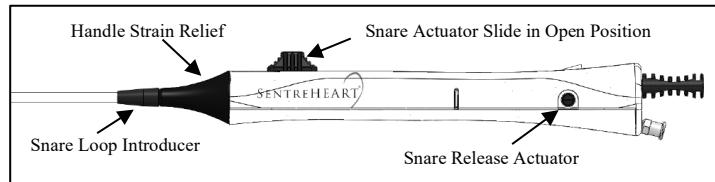

Figure 3 Opening the Delivery Snare
9. If using the SofTIP or Trocar, advance the Snare Loop Introducer from the handle towards the tip until it covers the closed Delivery Snare. Introduce the LARIAT RS into the SofTIP or Trocar. Pull back the Snare Loop Introducer until it locks to the Handle Strain Relief as shown in Figure 3.
10. To open the Delivery Snare, advance the Snare Actuator Slide until it stops and Delivery Snare is fully open as represented by the “O” (oval) symbol as shown in Figure 3.